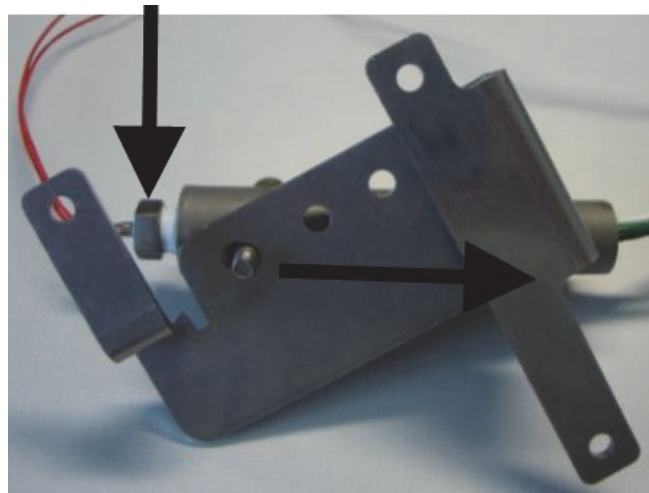

Figure 1
1. Install the CO₂ Heater to the Mounting Plate with the Temperature Sensor orientated as indicated in figure 1.
2. Slide the Heater as indicated in figure 1 and secure with two (2) 3/8 inch nuts from the “CO₂ Heater Removal” Section.